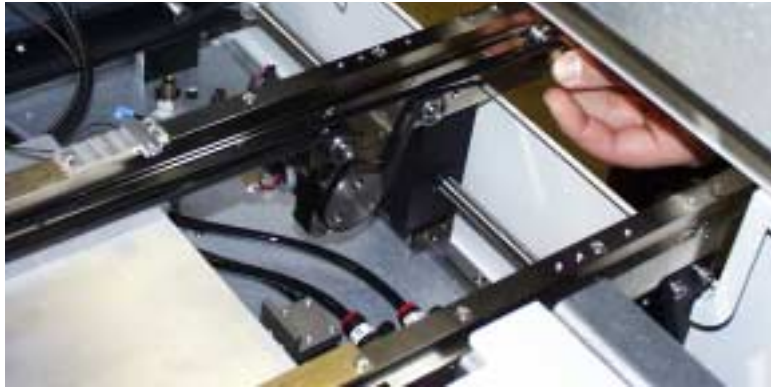

Figure 3-15
5. Stretch the belt and feed it onto the outermost pulley while operating the conveyor by hand. See Figure 3-15.